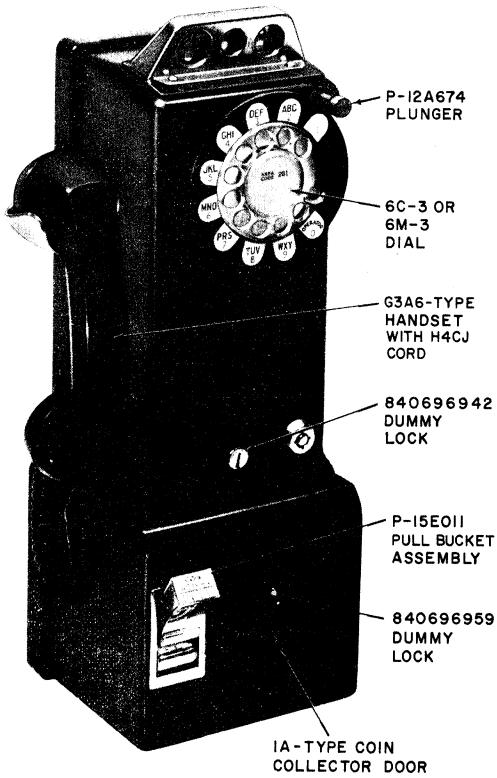

Fig. 1—D-180574 Coin Decorator Telephone Set
1.01 This section contains identification, installation, maintenance, and connection information for the D-180574 Coin Decorator telephone set (Fig. 1).
2.03 The handset with armored cord has been replaced with a G3A6-type handset with 6-foot retractable cord (Fig. 1).